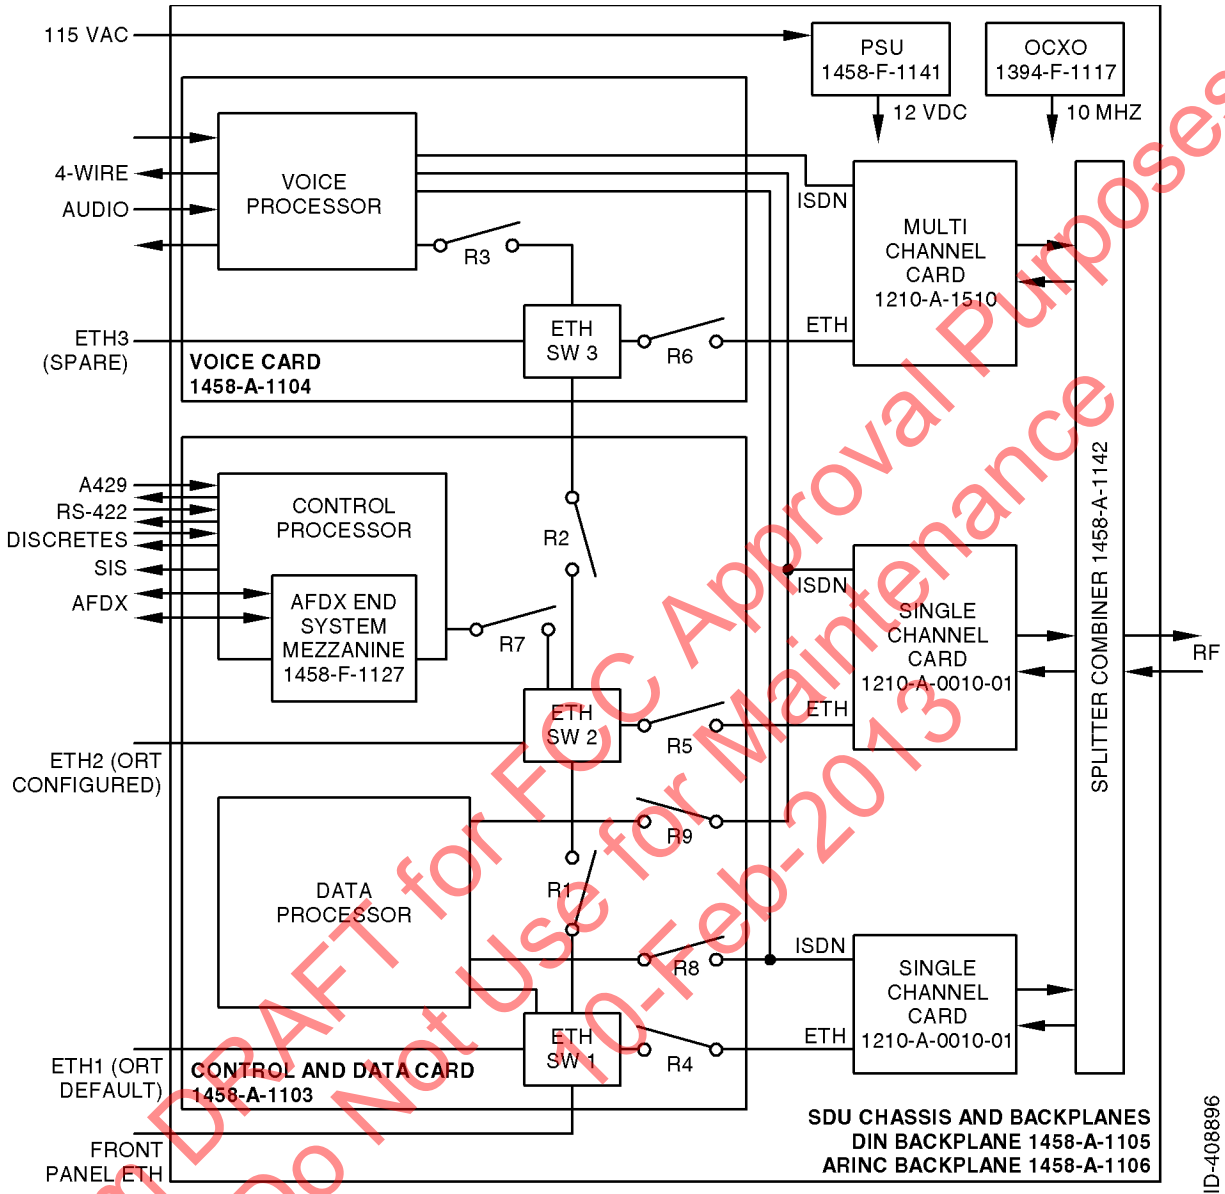

Figure 8. (Sheet 1 of 1) A350 SATCOM Avionics System Block Diagram (GRAPHIC 23-15-30-99B-808-A01)
- (3) Refer to Figure 8 (GRAPHIC 23-15-30-99B-808-A01) for the A350 SATCOM Avionics System block diagram.